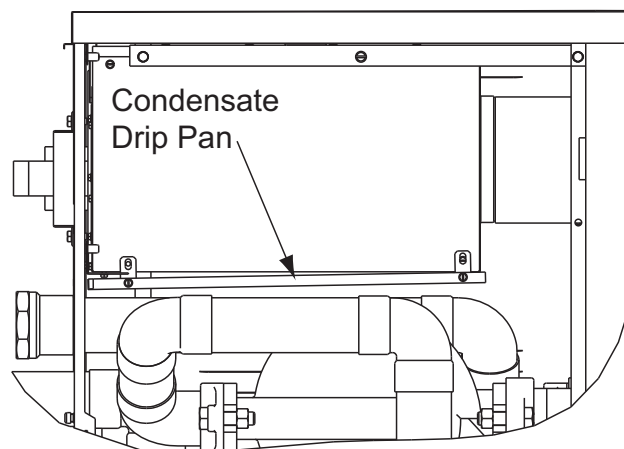

Fig. 9: Install the Condensate Drip Pan
6. Optional—For applications where condensation may form on cold intake air ducting, install the condensate drip pan to the bottom of the air filter box using the four screws provided (make sure the pan is angled slightly downward toward the rear of the heater as shown in Fig. 9).